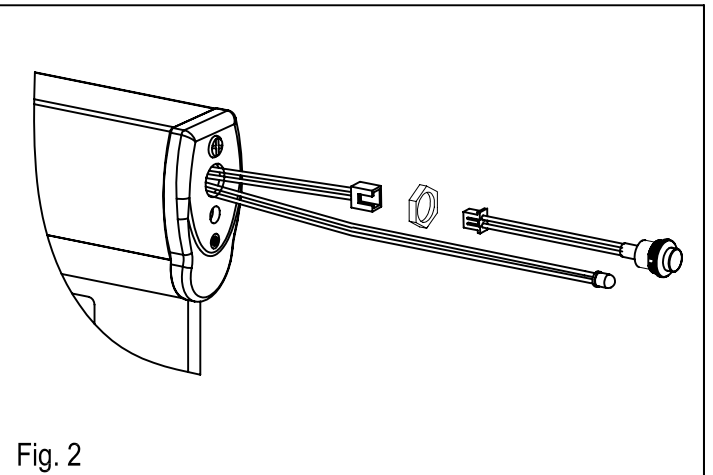

Fig. 2
3. Install right plastic cover back, make sure the test switch female connector and LED indicator male connector go through right cover hole. (See Fig. 2 on Page 2)